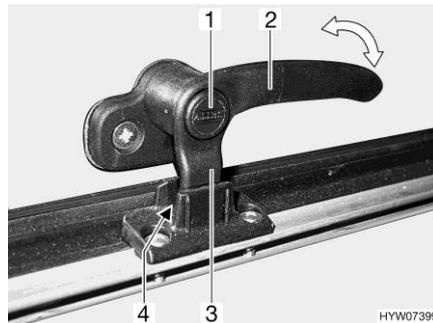
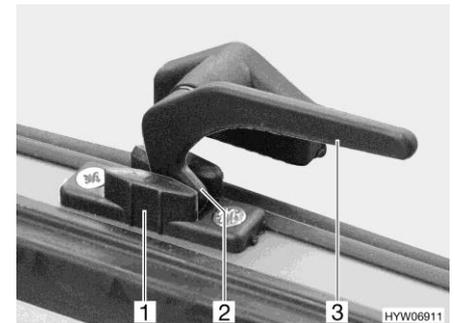

Fig. 113 Catch lever with safety knob in "continuous ventilation" position
Fig. 114 Catch lever in "continuous ventilation" position
- "Continuous ventilation" (Fig. 113 and Fig. 114)
- Press and hold the security button (Fig. 113,1), if present.
- Turn the catch lever (Fig. 113,2 or Fig. 114,3) a quarter turn towards the centre of the window.
- Return the catch lever to its initial position. Move the locking catch (Fig. 113,3 or Fig. 114,2) on the catch lever into the recess of the window catch (Fig. 113,4 or Fig. 114,1).